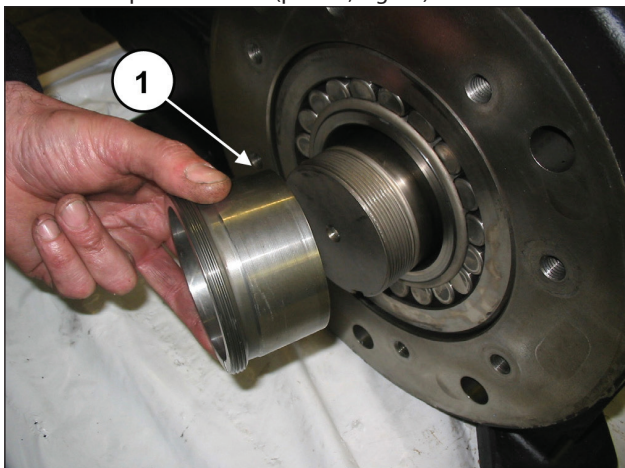

Fig. 27
Remove the pressure bush (pos. ①, Fig. 27).